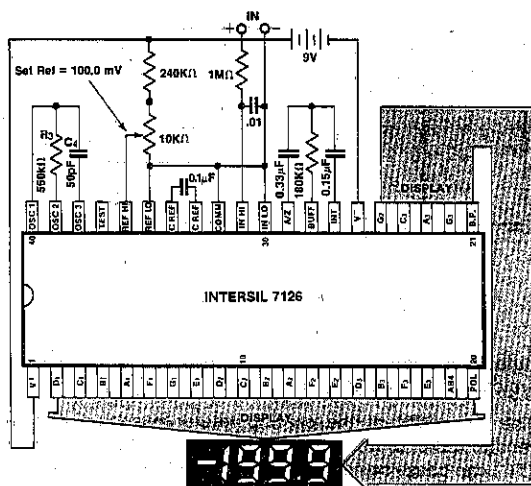

Figure 1: 7126 Clock Frequency 16kHz. (1 reading/sec)
**Note 3:** Unless otherwise noted, specifications apply at  $T_A = 25^\circ C$ ,  $f_{clock} = 16kHz$  and are tested in the circuit of Figure 1.